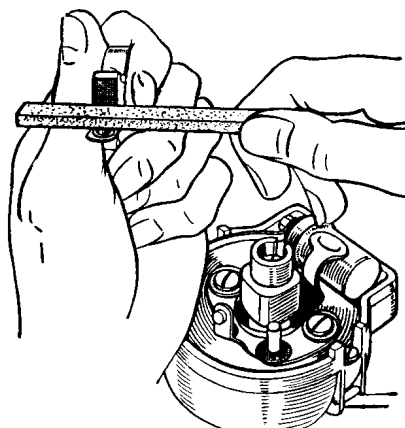

Fig. C.9.
- (b) If the contacts are dirty or pitted, they must be cleaned by polishing them with a fine carborundum stone, and afterwards wiping them with a petrol-moistened cloth. The moving contact can be removed from its mounting in order to assist cleaning (see Fig. C.9). Check and adjust the contact breaker setting after cleaning the contacts.